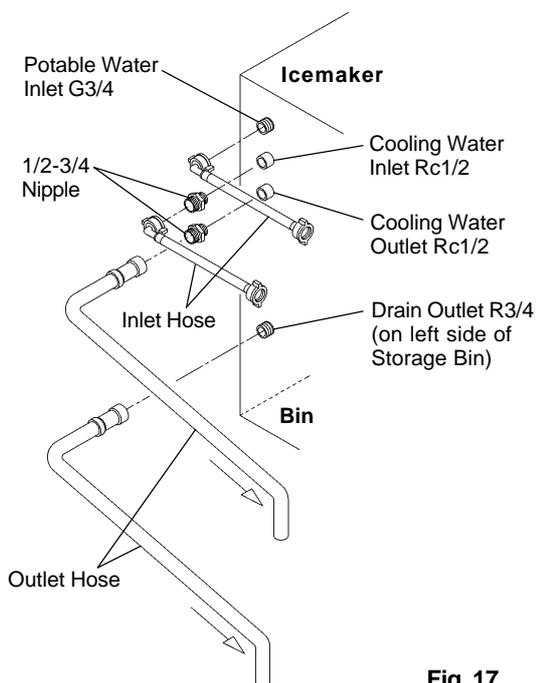

Fig. 17
[b] Connections according to regulations other than WRC by utilising accessory hoses (Fig. 17)
- 2) For Condenser connections, use supplied accessory hoses and make the same connections as 1) to 3) in [a] above to the free end of 1/2-3/4 nipples as indicated (Fig. 17).